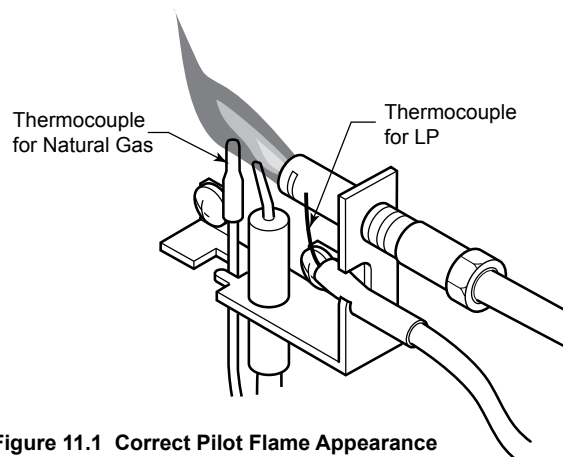

Figure 11.1 Correct Pilot Flame Appearance
- Inspect pilot flame pattern and strength. See Figure 11.1 and 11.2 for proper pilot flame pattern. Clean or replace orifice spud as necessary.